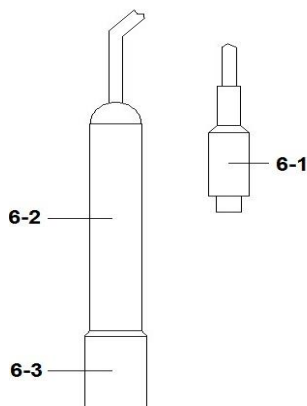

Fig. 3
1. Connect the conductivity Probe (CDPB-03) (6-1, Fig.3) into the "CD" Socket (3-15, Fig.1)
3. Hold the electrode handle (6-2, Fig. 3) by hand and let the sensing head (6-3, Fig. 3) immersed wholly into the measured solution and little shake the electrode.
2. Connect the conductivity Probe (CDPB-03) (6-1, Fig.3) into the "CD" Socket (3-15, Fig. 1).